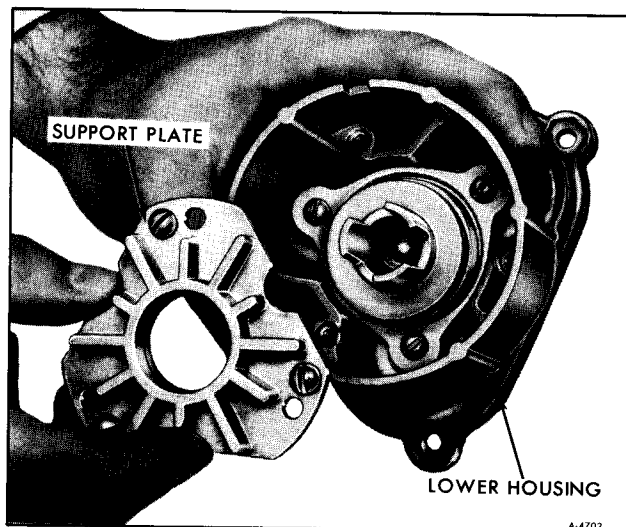
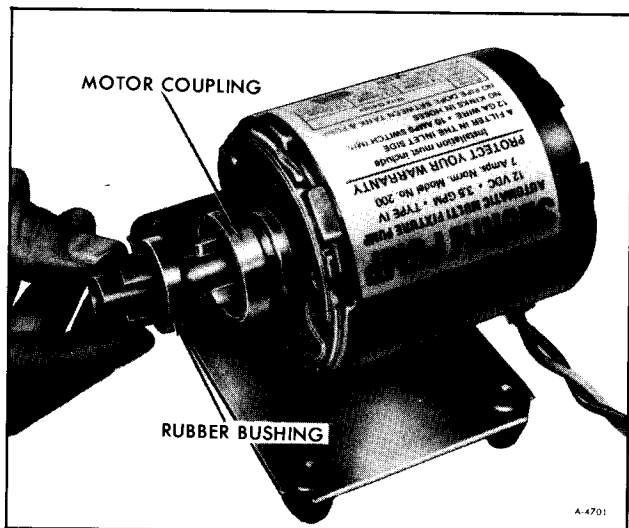

Figure 31—Removing Support Plate
Figure 30—Removing Rubber Bushing from Motor Coupling
6. The rubber bushing is either on the motor coupling or the drive coupling and can be removed by hand. (figure 30). Remove the support plate in the lower housing by removing three screws (figure 31).
6. Place rubber bushing over motor coupling (figure 30).